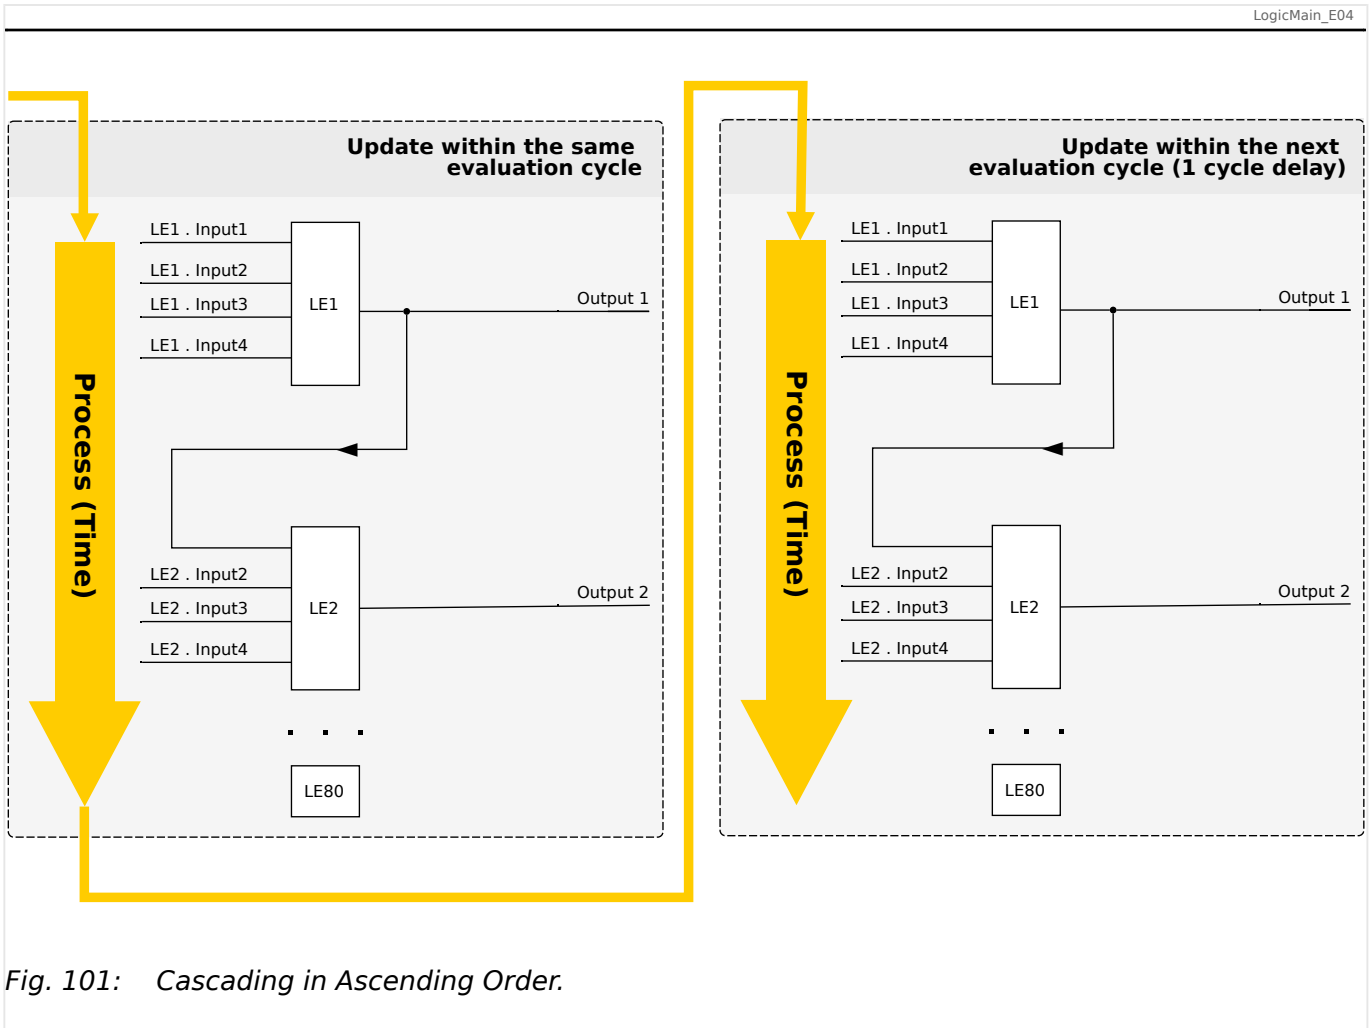
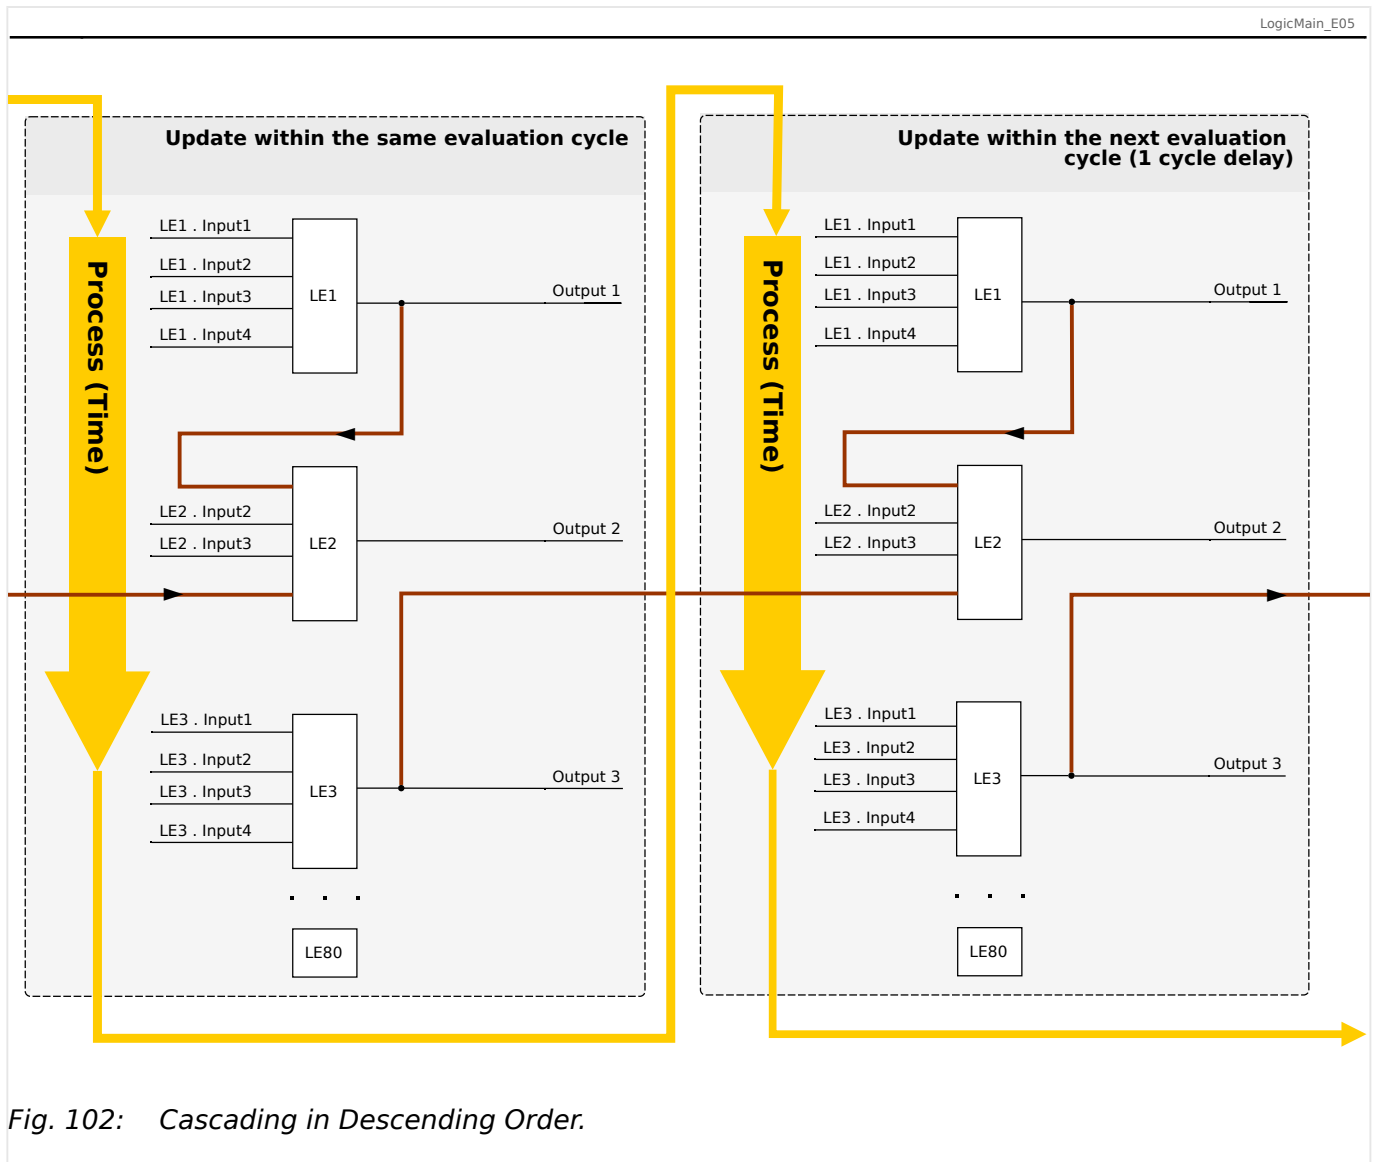

Fig. 101: Cascading in Ascending Order.
Fig. 102: Cascading in Descending Order.
- **Ascending** sequence means that some output is fed into the input of a logic equation with **higher** number. For instance, diagram  Fig. 101 below shows an example where the result of Logic Equation LE1 is used as an input of Logic Equation LE2.
- **Descending** sequence means that some output is fed into the input of a logic equation with **lower** number. For instance, diagram  Fig. 102 shows an example where the result of Logic Equation LE3 is used as an input of Logic Equation LE2.
Both ascending and descending sequences may be used and combined one with the other, with no immediate difference. However, due to the evaluation of all equations in ascending order the actual run-time values that are fed in at the input of an equation will have a different “age”, as is shown in  Fig. 101 and  Fig. 102 below.
In the example shown in Fig. 102 above, “Logic Equation 2” uses the output states of two other equations, “Logic Equation 1” and “Logic Equation 3”. The result of “Logic Equation 1” is used in ascending order and has therefore been evaluated within the same process cycle. The result of “Logic Equation 3” is used in descending order and has therefore been evaluated in the previous process cycle.